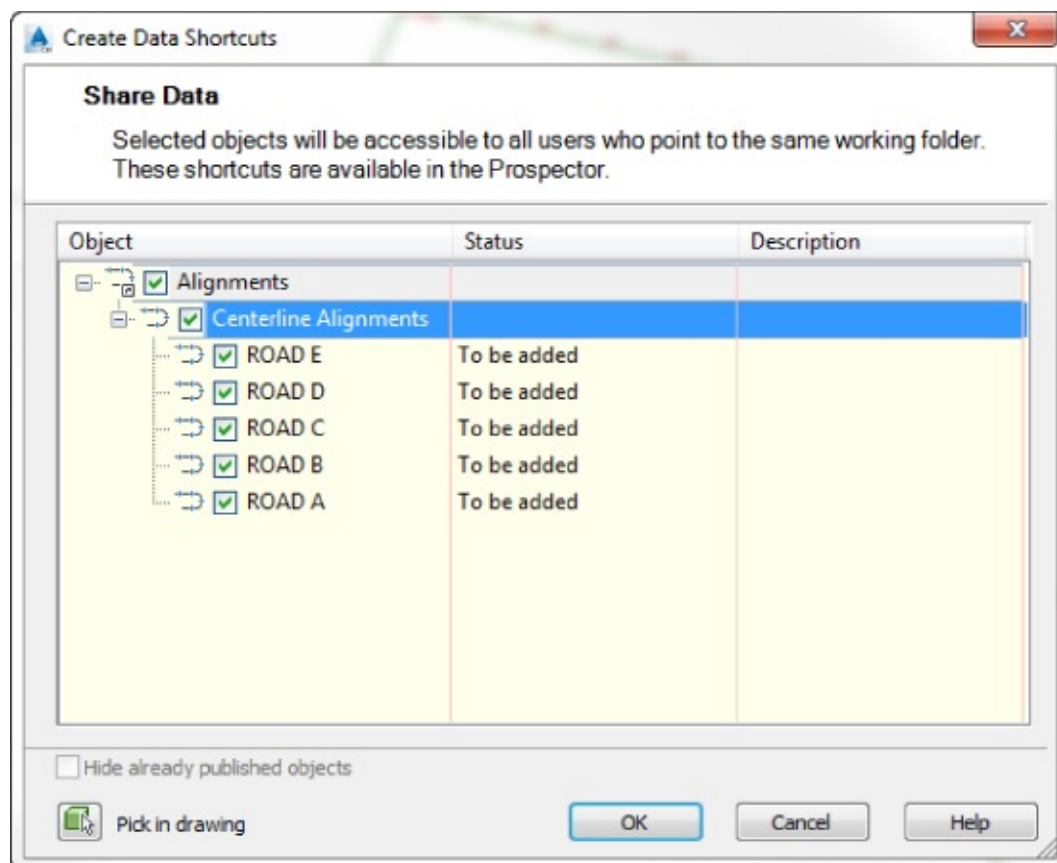

Figure 16.8 Adding alignment data to the pool : of data shortcuts
11. In the Create Data Shortcuts dialog, place a check mark next to the Alignments collection, which will select all the alignments and profiles if any exist (as shown in Figure 16.8), and click OK.